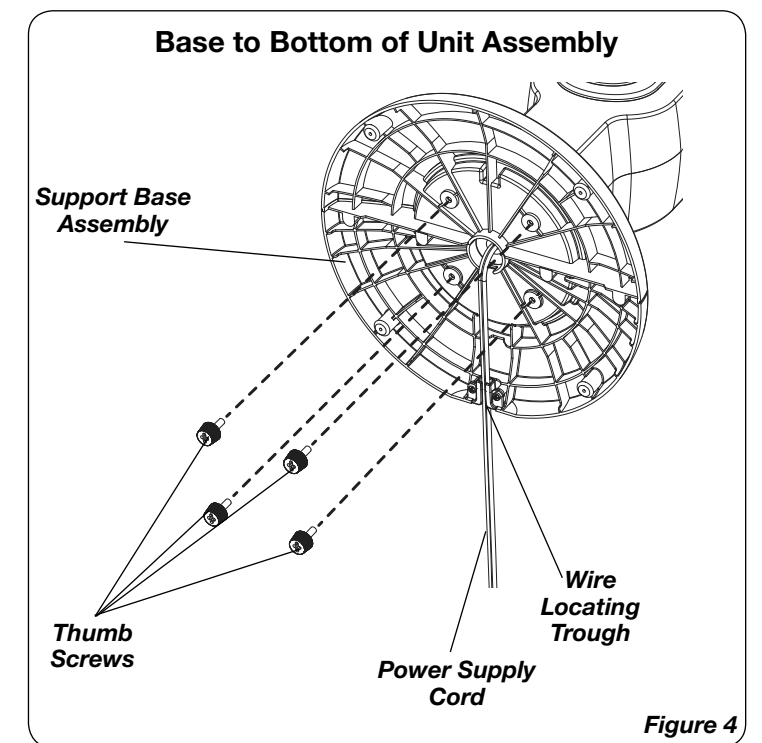

Figure 4
- Secure the **Support Base Assembly** to the bottom of the Fan with (4) **thumb Screws**. Gently pull any excess slack of the **Power Supply Cord** and place it in the **Wire Locating Trough**. (**Figure 4**)